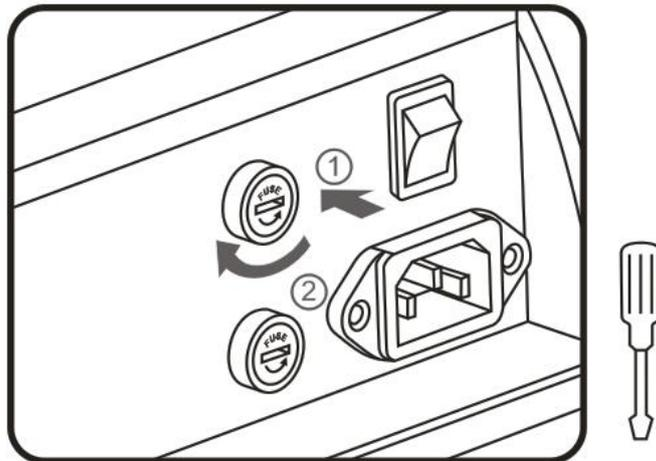

Fig 3-9: Installation of Fuse
As shown in Fig 3-9, put the new fuse in the fuse socket, and place the fuse socket into the fuse socket hole along direction ①. Put the screw driver into the slot of the fuse socket along direction ① and press it. Rotate the screw driver clockwise as per direction ② to complete the fuse replacement.